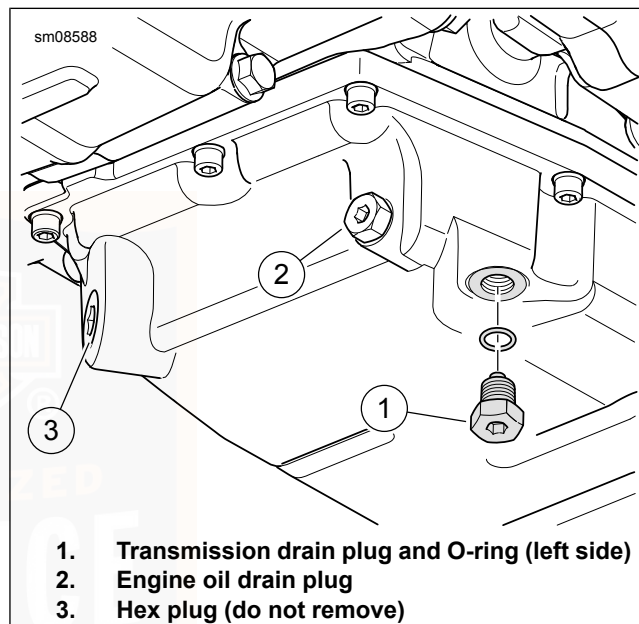

Figure 56. Transmission Drain
2. See Figure 56. Remove transmission drain plug. Drain transmission.